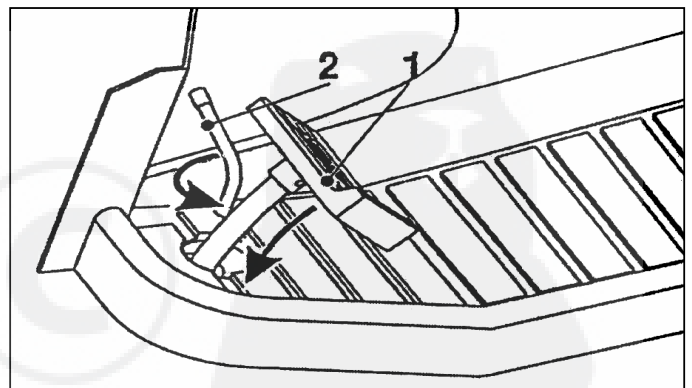

Fig. 15
3. Depress fully and hold the brake pedal (Fig. 15, pos. 1).
BRAKE (Fig. 15)
The parking brake lever is used to lock the brake pedal in brake position (Fig. 15, pos. 2).
When parking, depress the brake pedal and lock it (Fig. 15, pos. 1 and 2).